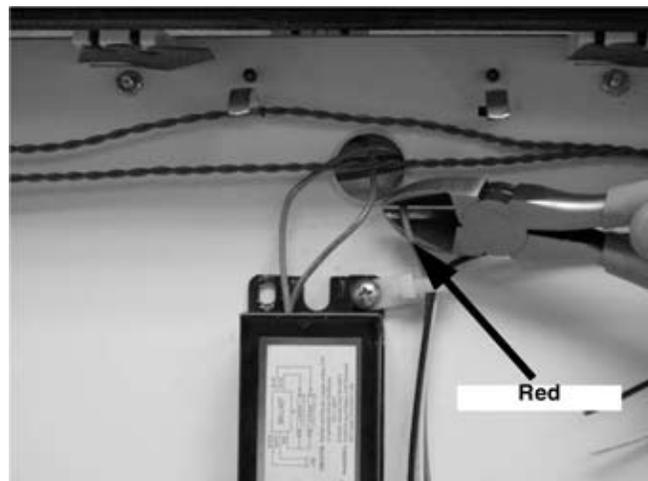

Figure 22.
- Cut ballast red wire, see Figure 22.